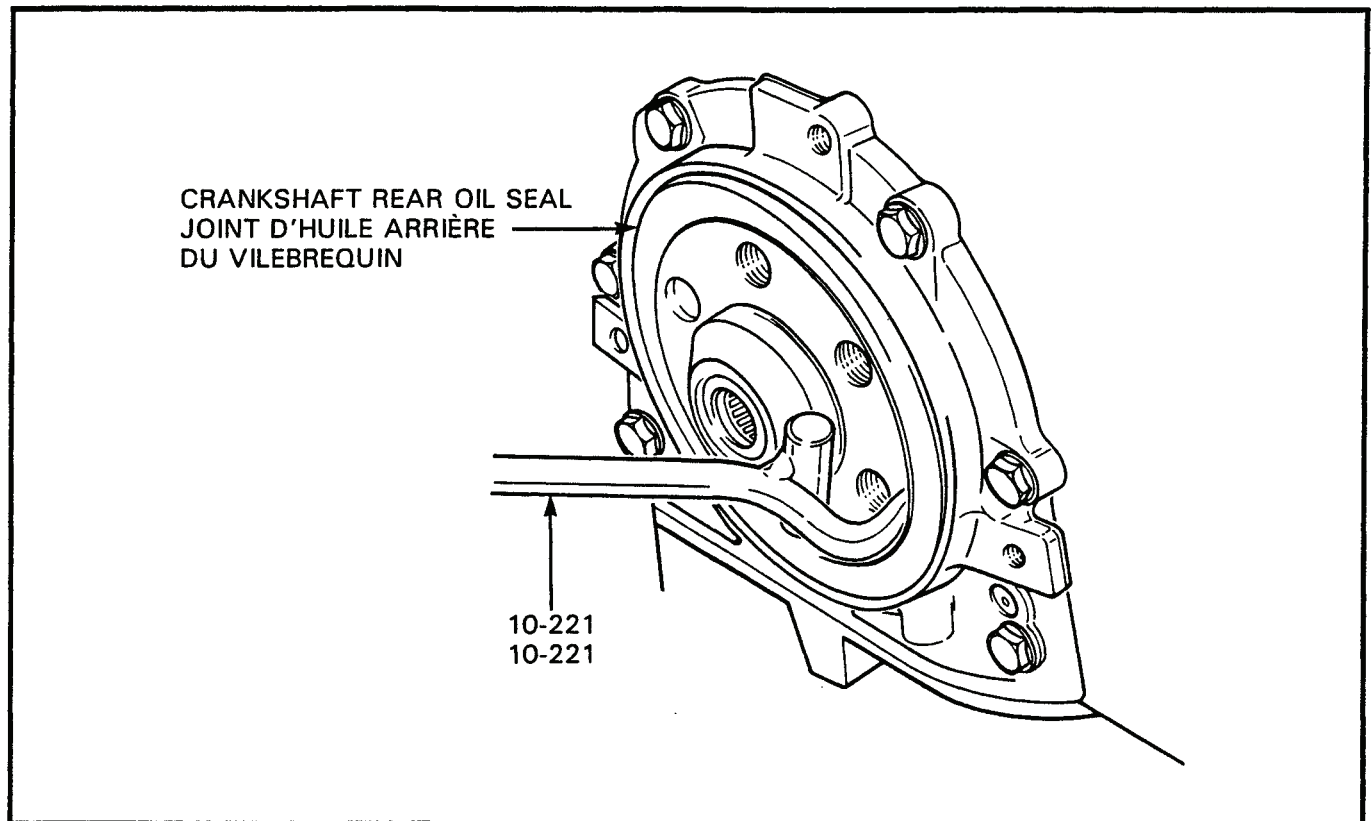

Figure 2-6-36 Removal of Crankshaft Rear Oil Seal
d. Using pry lever 10-221, remove the oil seal from the crankshaft, see Figure 2-6-36.
d. Au moyen de la barre-levier 10-221, enlever le joint d'huile du vilebrequin. Voir figure 2-6-36.